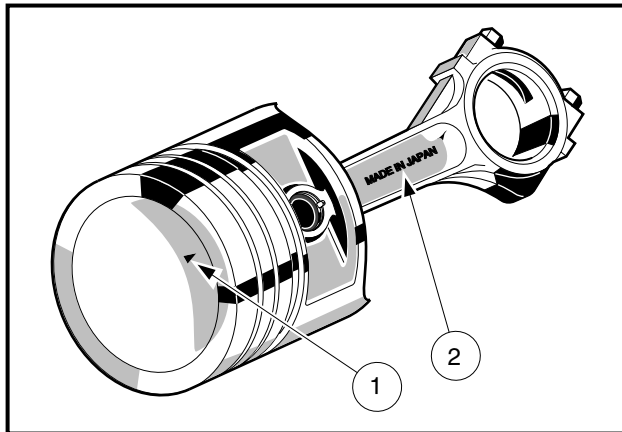

Figure 2-91 Piston/Connecting Rod
- 1.1. Align the arrow mark (1) on the piston head toward the words MADE IN JAPAN (2) on the connecting rod. Insert the piston pin through the piston holes and the connecting rod. Install the two retaining rings to hold the pin in place. The gap in the retaining rings should be facing towards the crankshaft. Make sure the retaining rings are seated in their grooves. Make sure the connecting rod moves freely (**Figure 2-91, Page 2-40**).